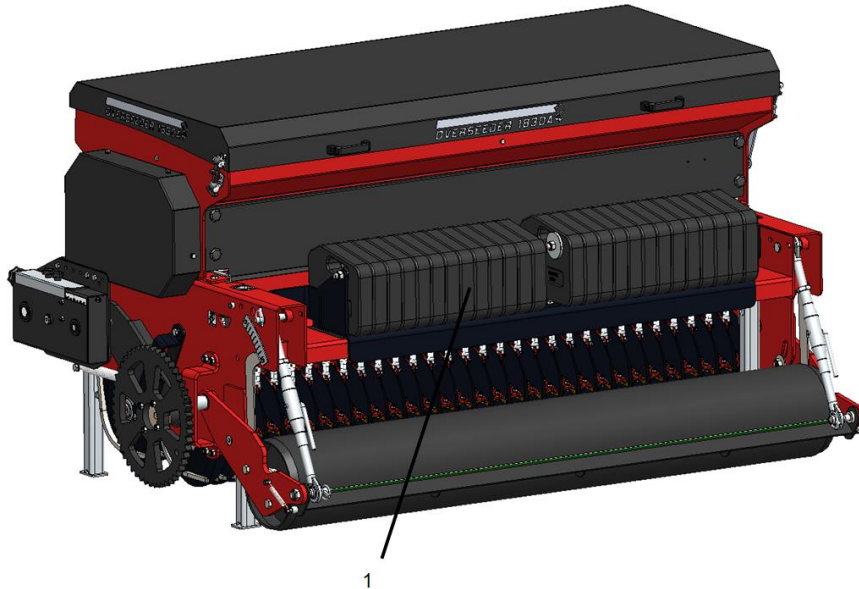

Figure 12
2. The external version: **(See figure 12)**
### External weight (See figure 12)